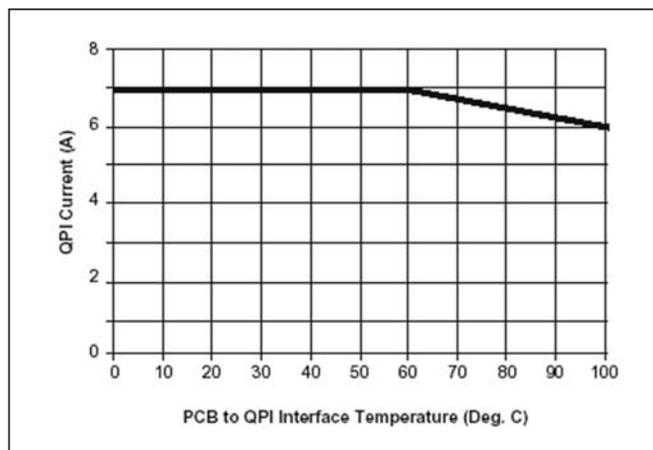

Figure 6 – Current vs. PCB temperature derating curve.
- -40° to +100°C PCB temperature (see Figure 6)
Note 2: See Figure 6 for current derating curve.